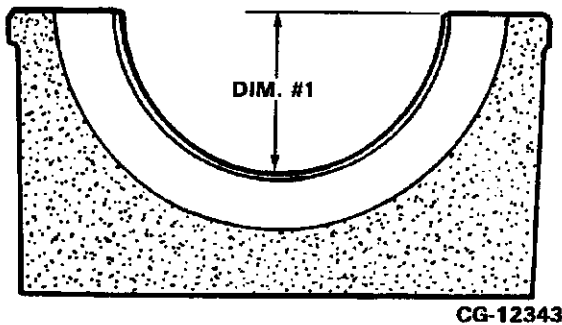

Figure 7.65. Dimension No. 1
- a. Measure the distance from the face of the cap to the saddle. We refer to this as dimension No. 1. See Figure 7.65.